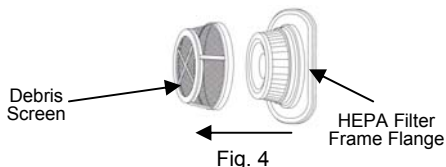

Fig. 4
4. Separate the debris screen from the HEPA filter cartridge by grasping the debris screen with one hand and the filter frame with the other and pull apart. (fig. 4)